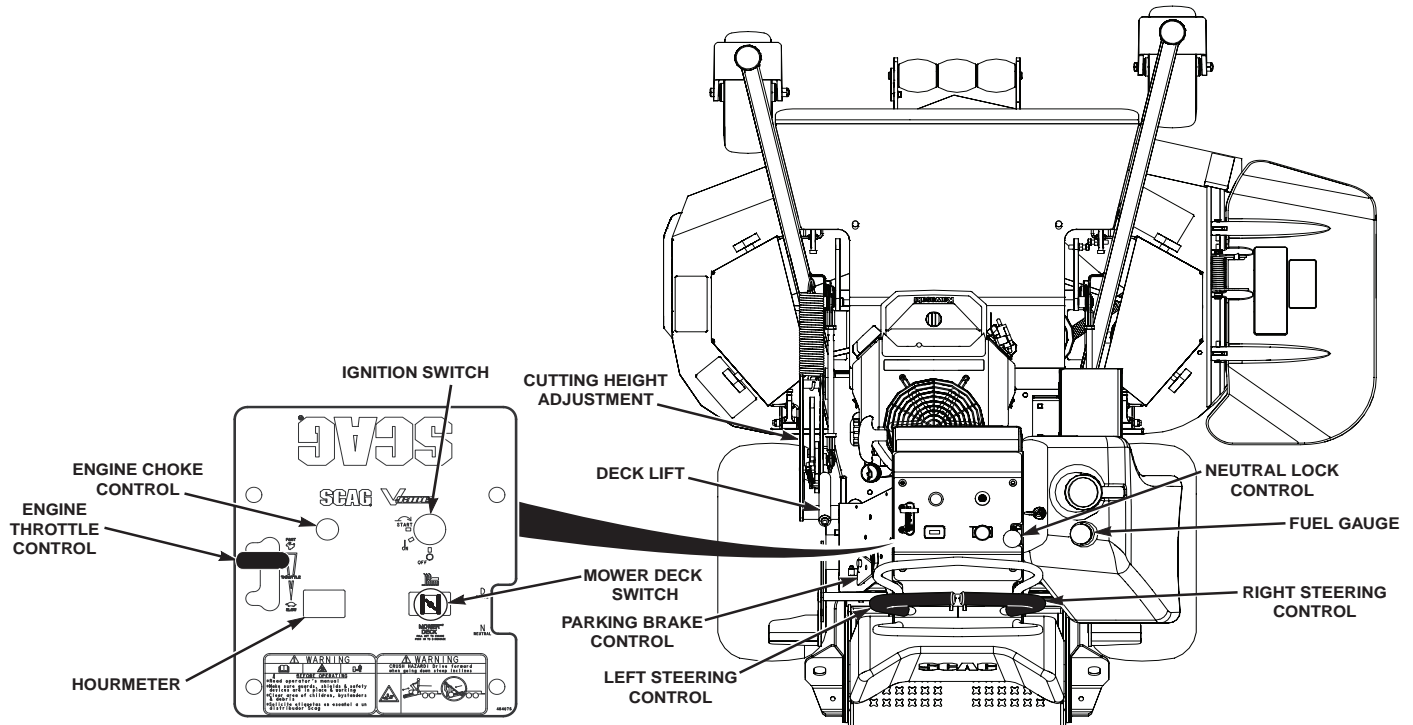

Figure 4-1. Controls and Instruments
1. **Ignition Switch (Figure 4-1).** The ignition switch is used to start the engine and has three positions; OFF, ON, and START.
2. **Mower Deck Switch (Figure 4-1).** Used to engage and disengage the mower drive system. Pulling up on the switch will engage the deck drive. Pushing down on the switch will disengage the deck drive.
3. **Engine Choke Control (Figure 4-1).** Used to start a cold engine.
4. **Engine Throttle Control (Figure 4-1).** Used to control the engine speed. Pushing the lever forward increases engine speed. Pulling the lever back decreases engine speed. Full back position is the IDLE position. Full forward is the cutting position.
5. **Hourmeter (Figure 4-1).** Indicates the number of hours the engine has been operated. It operates whenever the engine is running. Has preset maintenance reminders for engine and hydraulic system oil changes. Will start flashing scheduled maintenance 2 hours before preset time and continue flashing until 2 hours after. Automatically resets.
6. **Left Steering Control (Figure 4-1).** Used to control the mower's left wheel when traveling forward or reverse. See Section 4.5 for further details regarding the mower's travel controls.
7. **Right Steering Control (Figure 4-1).** Used to control the mower's right wheel when traveling forward or reverse. See Section 4.5 for further details regarding the mower's travel controls.
8. **Neutral Lock Lever (Figure 4-1).** Used to disengage the mower drive in the neutral lock position (N) or to engage to the mower's drive in the drive position (D). See Section 4.5 for further details regarding the mower's travel controls.
9. **Parking Brake Control (Figure 4-1).** Used to engage and disengage the parking brakes. Pull the lever back to engage the parking brakes. Push the lever forward to disengage the parking brakes.
10. **Deck Lift Lever (Figure 4-1).** Used to raise and lower the cutter deck.
11. **Cutting Height Adjustment (Figure 4-1).** Used to set the cutter deck at the desired cutting height.
12. **Fuel Tank Gauge (Figure 4-1).** Indicates the amount of fuel in the fuel tank.